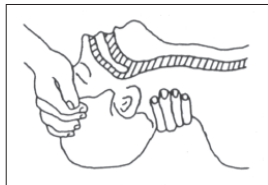

Figure 1
- Open the airway by lifting the neck and pushing the forehead back (**Figure 1**).